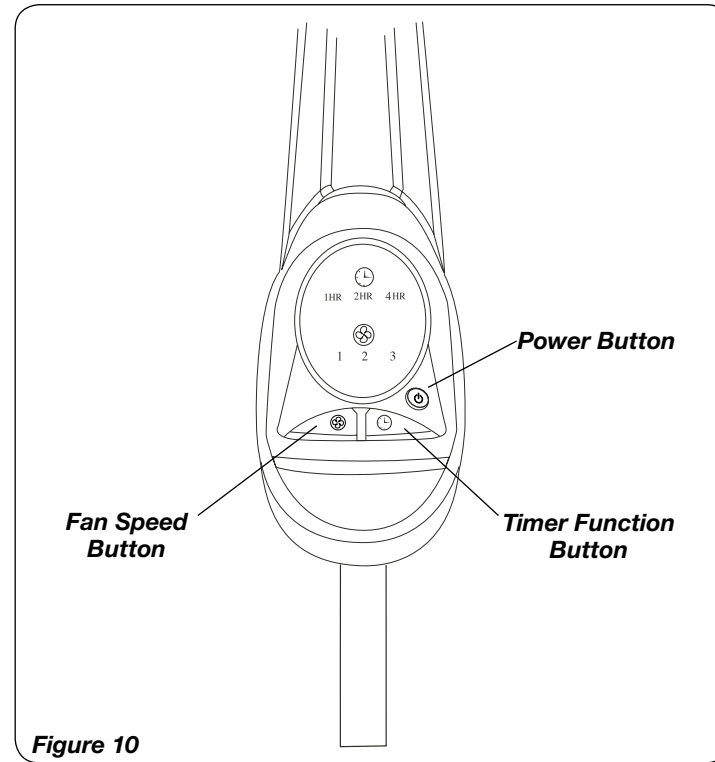
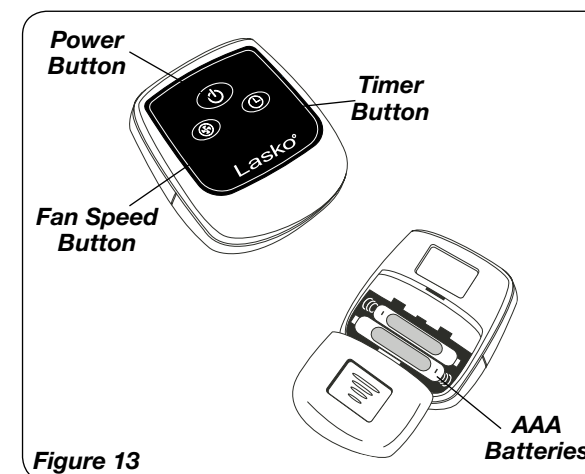

Figure 10
Figure 13
This Fan may be operated by the Manual Controls located on front of the unit (as shown in *Figure 10*) or by the Remote Control (shown in *Figure 13*).
1. Install batteries as shown in *Figure 13*. The battery is type “AAA” not included.